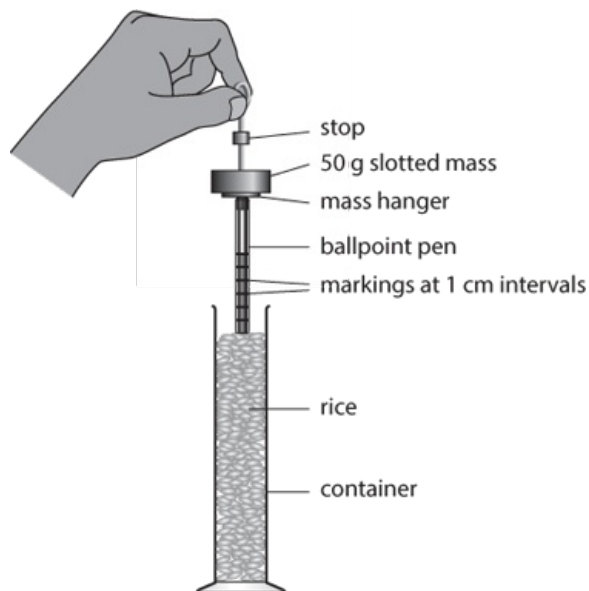

Figure 4.6: Marked ballpoint pen and weight held over a container of rice.
- 2 Hold the mass hanger so that it is resting centrally on top of the pen as shown in Figure 4.6.